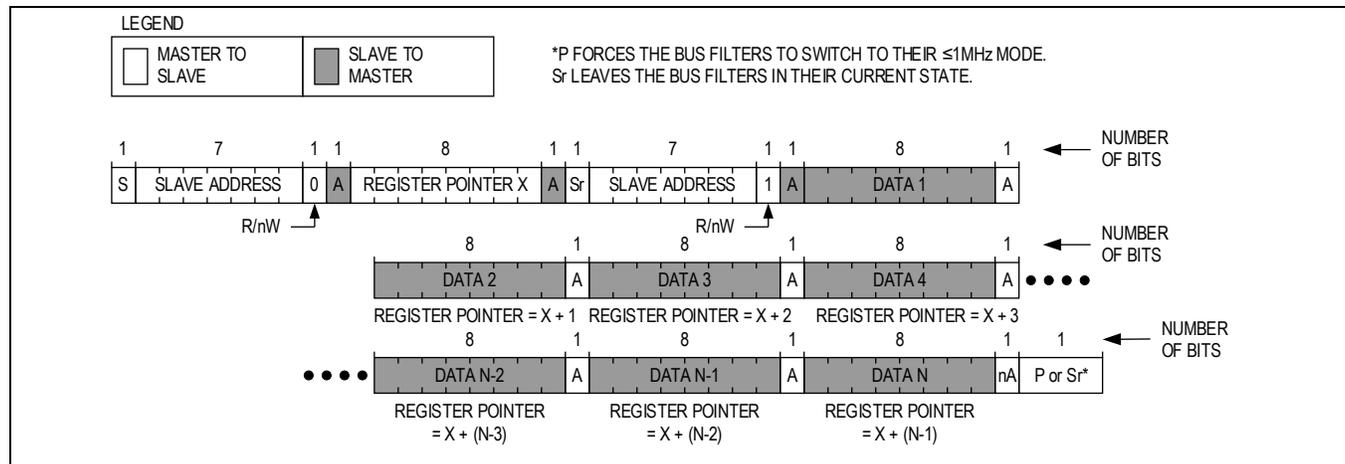

Figure 15. Reading from Sequential Registers
Figure 15 shows the protocol for reading from sequential registers. This protocol is similar to the “Read Byte” protocol except the master issues an ACKNOWLEDGE (A) to signal the slave that it wants more data—when the master has all the data it requires, it issues a not-acknowledge (nA) and a STOP (P) to end the transmission.